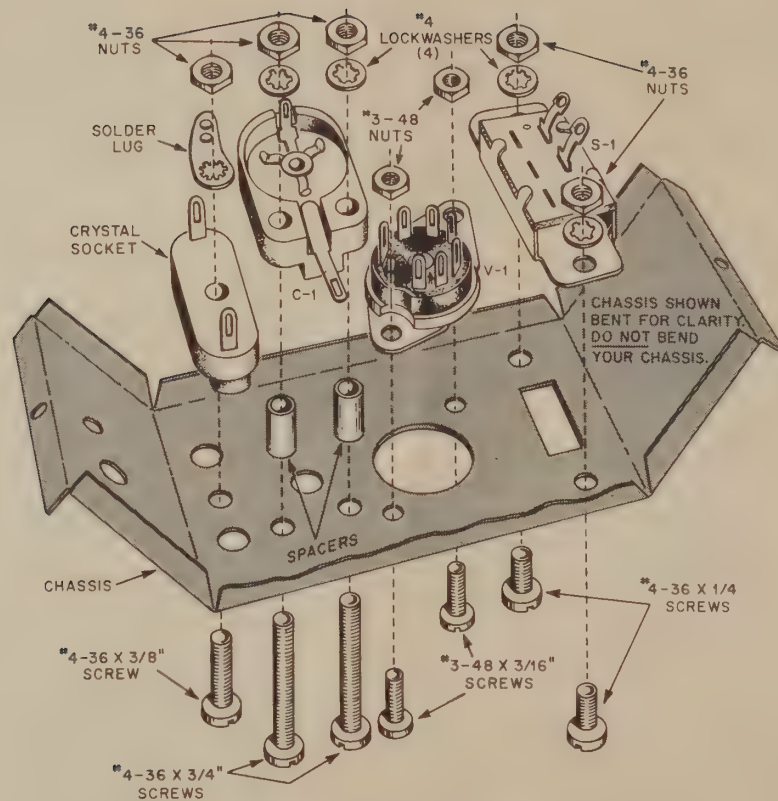

FIGURE 1. MOUNTING PARTS IN THE CHASSIS
SEE FIGURE 1.
- ☒ Mount the crystal socket as shown in Figure 1. Note that a 3/8" long screw is used to fasten the socket, and a solder lug is attached to the socket by the mounting nut.
- ☒ Mount C-1, the 7-45 $\mu\mu\text{f}$ trimmer capacitor in the position shown in Figure 1. Be sure it is right side up. Note the metal spacers used with the two 3/4" long screws.